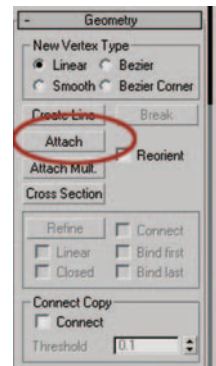

Figure 2.14 The Attach button.
7. Now we are going to attach the three splines to one another using the Attach button. Figure 2.14 shows the Attach button.